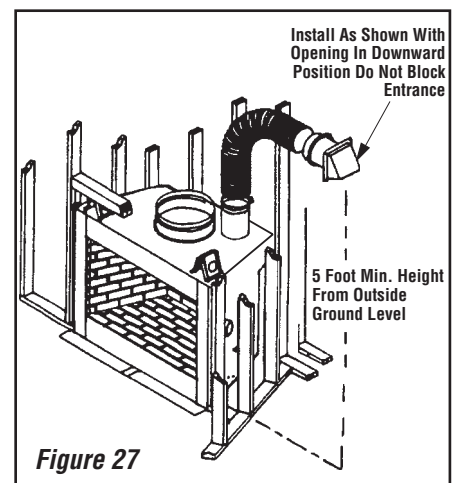

Figure 27
1. Connect the 6" (152 mm) Class 0 metallic air duct to the collar on the chimney collar enclosure with the screws provided in the hardware kit. See **Figure 27**.